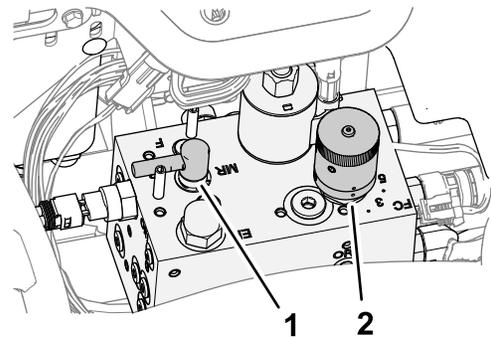

Figure 90
4. Move the backlap lever to the R (backlap) position (Figure 90).